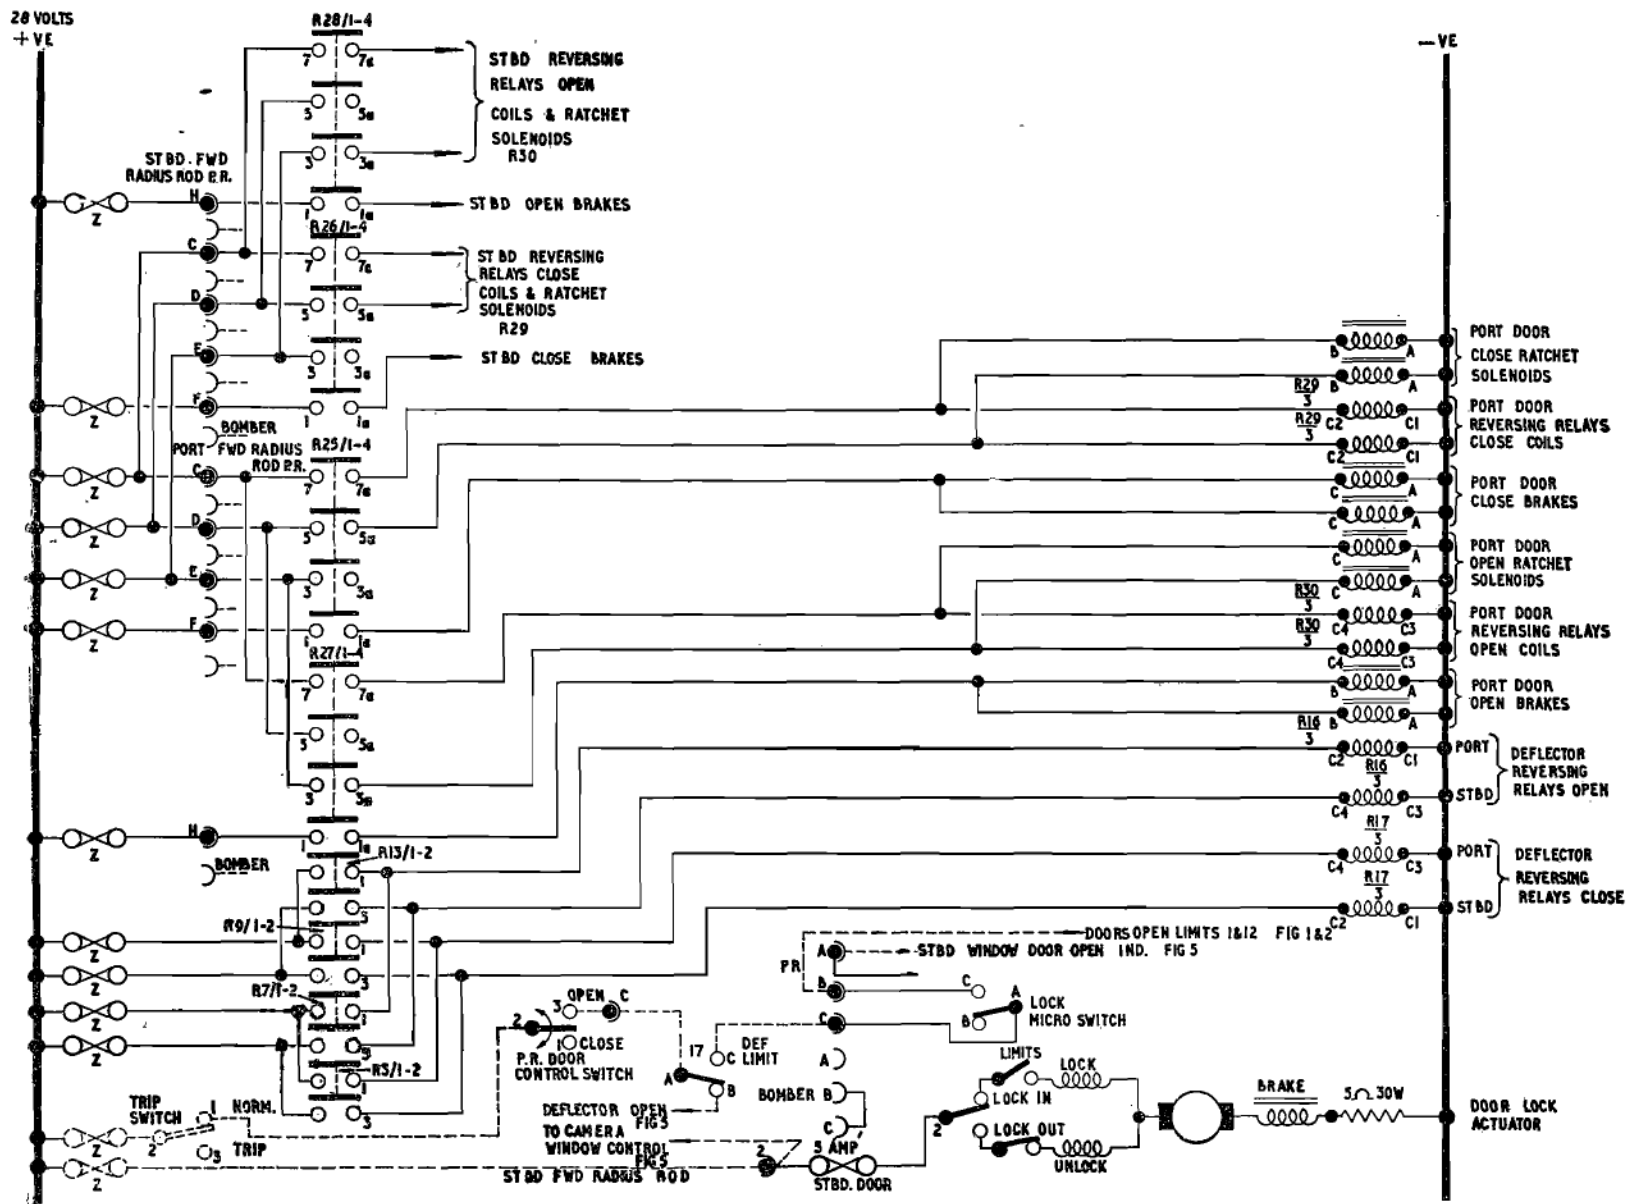
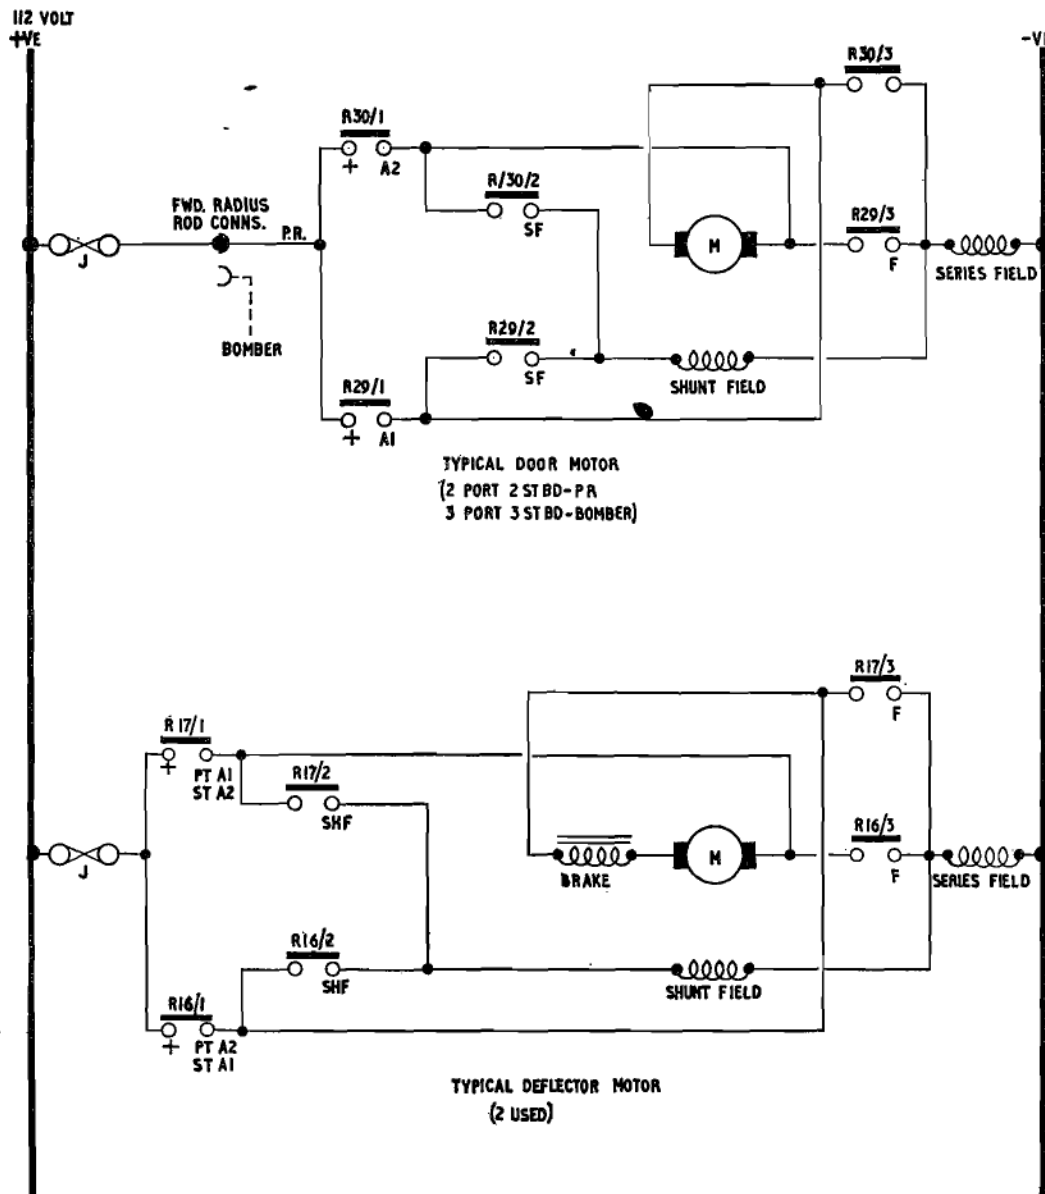

Fig. 3. Bomb door control—intermediate
Fig. 4. Bomb door control—final
4. This relay operates to connect, R13/1-2, two supplies from panel Z to the open coils R 16 (fig. 3) of the two deflector motor reversing relays which will then connect, R16/1-3, 112-volt supplies from panel J to the motors and their brake solenoids (fig. 4).
6. Deflector limit switch 17 will now be made across A-C and will connect the control supply to the lock micro switch in the starboard door, the contacts of which are open until the lock is disengaged (fig. 3).
connects its supply from panel Z (starboard camera window door supply) and a 5-amp fuse in the door near the switch to the 'unlock' field of the actuator, through its armature to a 5-ohm, 30-watt resistance and thence to earth (fig. 3). The actuator then removes the lock, built-in limit switches stopping it at the end of its travel. The 30-watt series resistance is provided to slow down the speed of travel of the actuator.
10. These relays operate, R28/1-4 and R27/1-4, to connect 28-volt supplies from panel Z to the open coils R30 of the two door motor reversing relays to the open ratchet solenoids and to one set of the duplicated brake solenoids (fig. 3).
11. All the reversing relays operate together to connect, R30/1-3, 112-volt supplies from panel J to their respective motors (fig. 4). The open relays, reversing relays, open ratchet solenoids and brake solenoids are all tripped when the doors have opened and have operated the limit switches 1, 2, 12 and 13 (fig. 1 or 2). The motors are then disconnected and will stop as the brakes are applied. The door control switch can now be allowed to return to OFF.
13. When the starboard *close* relay operates, it connects, R26/1-4, 28-volt supplies from panel Z to the *close* coils R29 of the two door motor reversing relays, in the door, and to the *close* ratchet solenoids and the other set of duplicated brake solenoids (*fig. 3*).
14. Both the reversing relays operate together, connecting, R29/1-3, 112-volt supplies from panel J to their respective motors (*fig. 4*). The *close* relays, reversing relays, *close* ratchet solenoids and *close* brake solenoids are all tripped when the door reaches the closed position and has operated limit switch 6 (*fig. 1 or 2*). The motors are thus disconnected and their brakes applied.
16. This relay operates to connect, R25/1-4, two supplies from panel Z to the *close* coils R29 of the two door motor reversing relays, in the door, and to the *close* ratchet solenoids and the *close* brake solenoids (*fig. 3*).
17. Both the reversing relays operate together, connecting, R29/1-3, the 112-volt supplies to their respective motors (*fig. 4*).
19. This relay operates to connect, R9/1-2, two supplies from panel Z to the *close* coils R17 of the two deflector motor reversing relays which will then connect, R17/1-3, 112-volt supplies to the motors and their brake solenoids (*fig. 4*).
22. When the switch is placed to LOCK IN, a supply, from panel Z (starboard camera window door supply) and the 5-amp. fuse near the switch, is connected to the *lock* field of the lock actuator and then through the armature and brake solenoid to a 5-ohm, 30-watt resistance and thence to earth (*fig. 3*). The actuator then engages the lock, built-in limit switches stopping the actuator at the end of its travel. As the actuator starts to operate, the associated micro switch contacts are opened (A-B). The 3-watt series resistance is provided to slow down the speed of travel of the actuator.